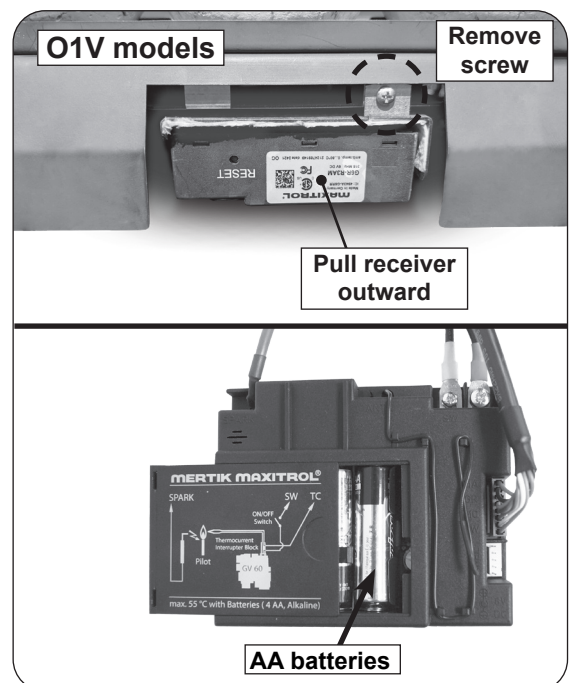

Fig. 19-2 Remote receiver batteries - 01V models
1. Locate the receiver positioned in the bottom front of the burner assembly. Remove the screw shown in Fig. 19-2 and carefully pull out the receiver. Be careful when handling to not damage/disconnect wiring.
2. The control module requires 4 AA batteries to operate (included). Locate the control module connected to the burner valve. Slide open the lid, and properly insert the new batteries as marked. See Fig. 19-2